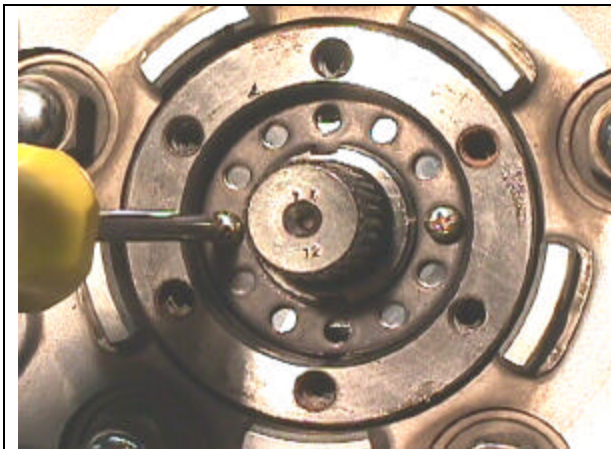

Figure 7
6. For the vacuum type automatic hublock, remove the two (2) screws, set plate, and spindle nut as shown in Figures 7 & 8.